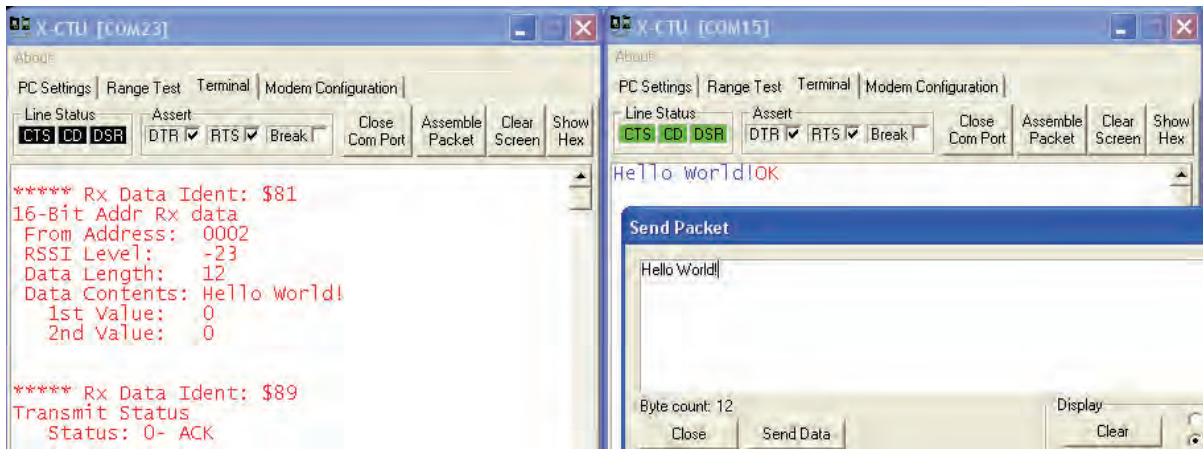

Figure 6-7: Receiving String of Data by API_Base.spin
- ✓ Your results should look similar to Figure 6-7.